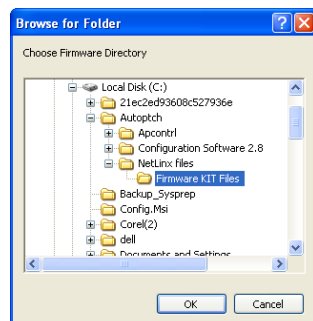

FIG. 99 Browse For Folder dialog
3. Click the Browse (...) button to navigate to the target directory (FIG. 99) in the Browse For Folder dialog. Select the desired files (for the Master upgrade and the switcher upgrade); click OK.